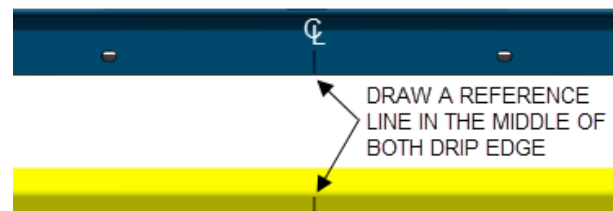

FIGURE 27
6. Draw a line to mark the center of both drip edge (FIGURE 27).